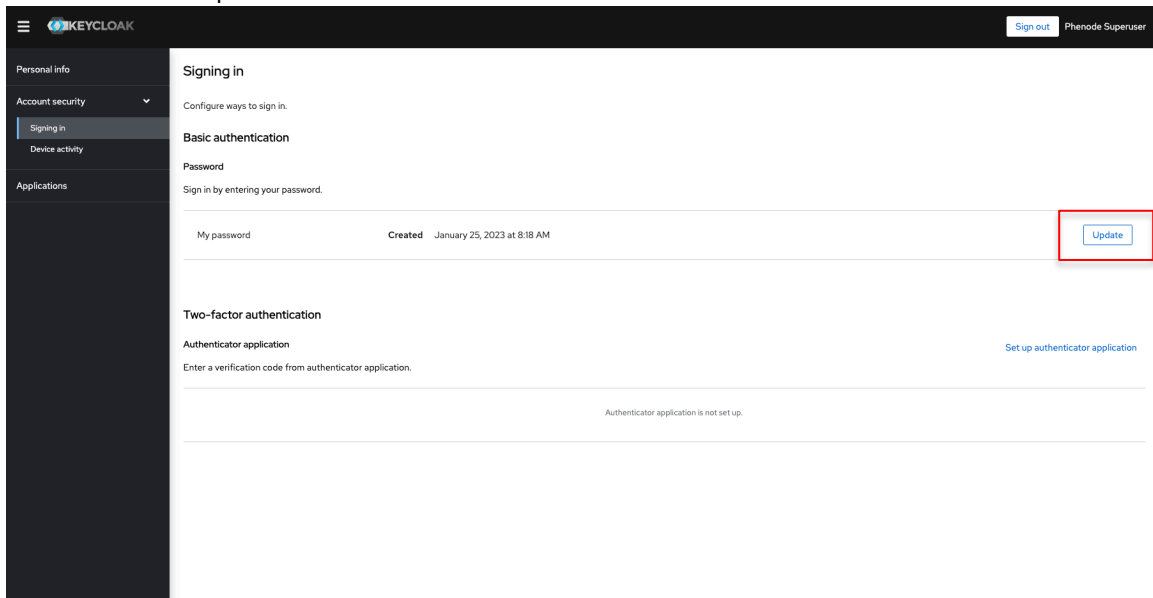

Figure 8. Keycloak "Signing In" screen
7. If you would like to change the email or name of user associated with the account, navigate to the "Personal Info" section of Keycloak. (Figure 8)